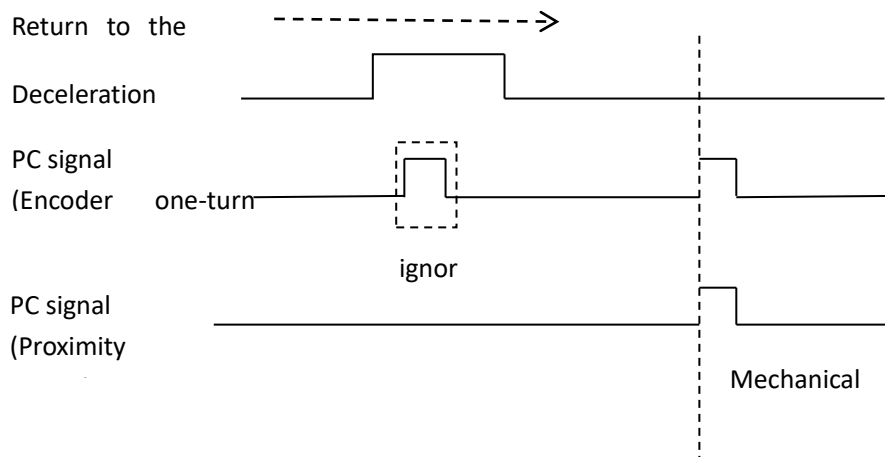

Figure 2-8 PC Signal Waveform Diagram
a) The waveform of the PC signal that the user should provide is shown in Figure 2-8 below: